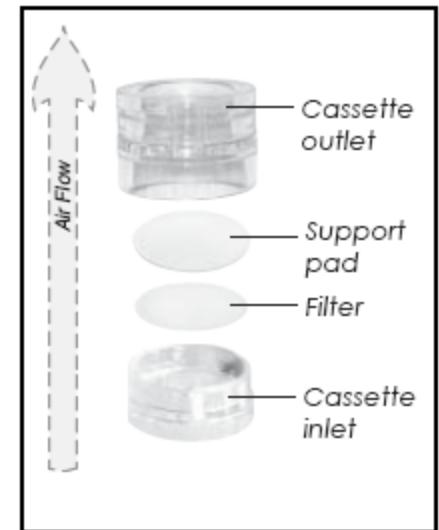

Figure 1.1 Assembly of the Pre-made Cassettes
1. The cassettes are pre-made by CASSEN Testing Labs. See figure 1.1 for the assembly of the filter cassettes.